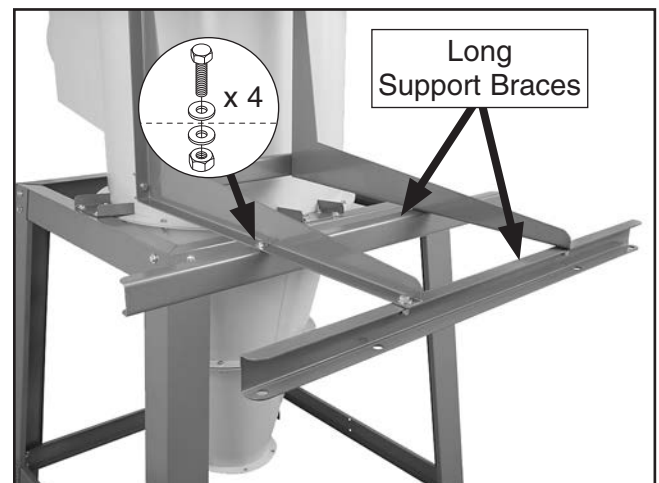

Figure 26. Long brace supports attached.
30. Attach two long brace supports to filter braces with (4) $\frac{3}{8}$ "-16 x $\frac{3}{4}$ " hex bolts, (8) $\frac{3}{8}$ " flat washers, and (4) $\frac{3}{8}$ "-16 hex nuts, as shown in **Figure 26**.